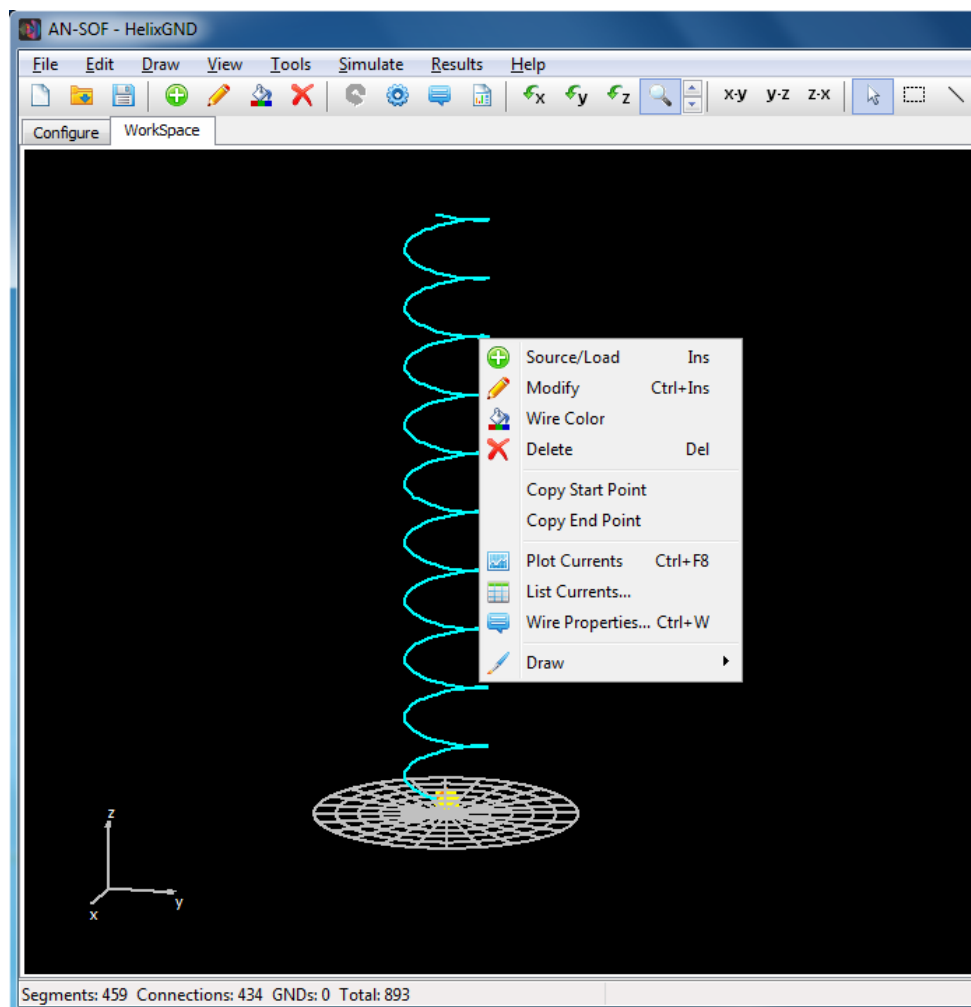

Fig. 6.1: Pop-up menu displayed when a wire is selected by clicking the right mouse button on it.
2. By clicking the right mouse button on a wire. In this case, a pop-up menu will be shown, Fig. 6.1.
Clicking the right mouse button on a wire shows a pop-up menu, Fig. 6.1. Choosing the Modify command from the pop-up menu shows the Modify dialog box, where the geometrical parameters and attributes of the selected wire can be modified.
Clicking the right mouse button on a wire shows a pop-up menu, Fig. 6.1. Choosing the Delete command from the pop-up menu deletes the selected wire with all sources and loads placed on it.
Clicking the right mouse button on a wire shows a pop-up menu, Fig. 6.1. Choosing the Wire Color command from the pop-up menu displays a Windows[®] dialog box for changing the color of the selected wire. This command is enabled when a wire is selected.